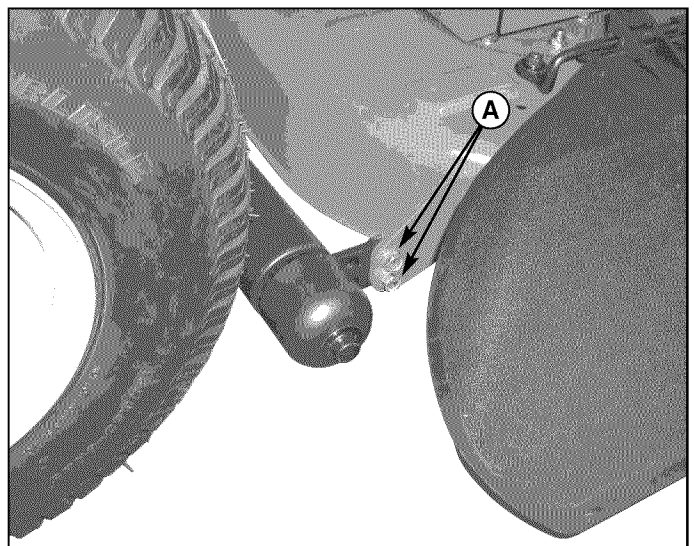

Figure 32. Roller Bar Leveling
- Locate the roller bar leveling hardware on the right side of the mower deck (A, Figure 32). Loosen the hardware and raise or lower the roller bar until the correct level is achieved, then tighten the hardware. Repeat steps 4 & 5 if necessary.